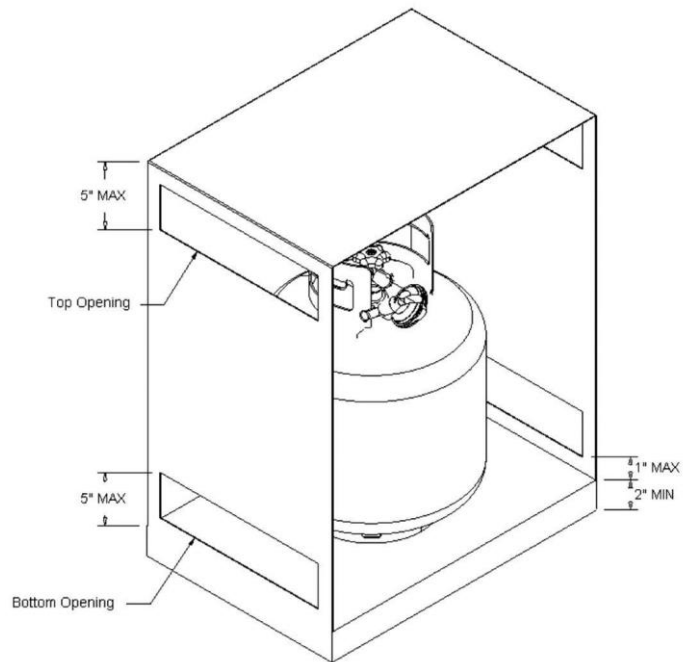

Figure 6.1 – Top and bottom side ventilation openings for LP tank enclosure.
- At least two ventilation openings shall be provided in the side walls of the enclosure, located within 5 inches (127mm) of the top of the enclosure, equally sized, spaced at a minimum of 180 degrees, and unobstructed. The opening(s) shall have a total free area of not less than 1 in² lb (14.2 cm²kg) of stored fuel capacity. See Figure 6.1.
- Ventilation opening(s) shall be provided at the floor level of the enclosure and shall have a total free area of not less than 1/2 in² lb (7.1 cm²kg) of stored fuel capacity. If ventilation openings at floor level are in a side wall, there shall be at least two openings. The bottom of the openings shall be 1 inch (25.4mm) or less from the floor level and the upper edge no more than 5 inches (127mm) above the floor level. The openings shall be equally sized, spaced at a minimum of 180 degrees and unobstructed. See Figure 6.1.